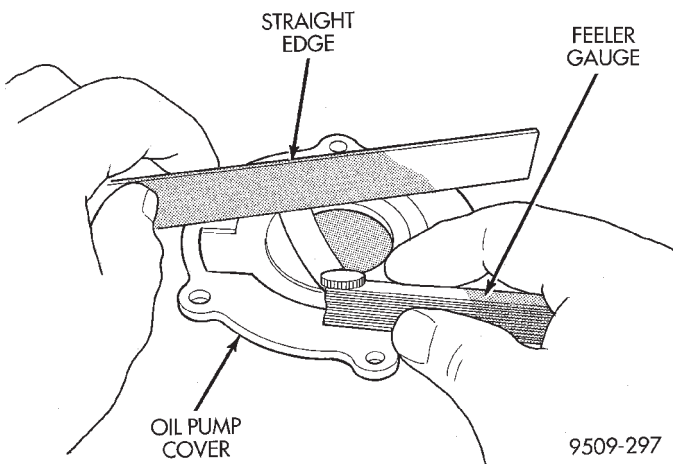

Fig. 100 Checking Oil Pump Cover Flatness
(2) Lay a straightedge across the pump cover surface (Fig. 100). If a 0.025 mm (0.001 in.) feeler gauge can be inserted between cover and straight edge, cover should be replaced.